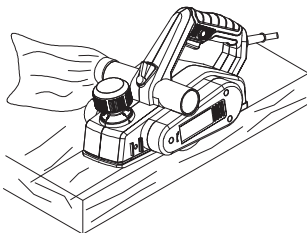
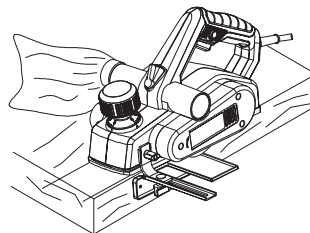

Fig. 12
Fig. 13
1. Set the desired cutting depth. It is best to use small depths of cut and repeat the planing process (Fig. 12).
2. Attach the parallel guide (10) if required to the product as described above and adjust to desired width.
3. Place the product laterally to the workpiece and guide the product along the edge (Fig. 13).